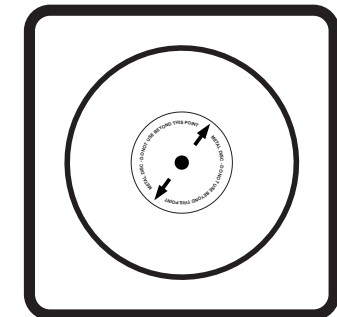

Fig. 2
8. Each pad is marked with arrows identifying when the pad should be discarded. Do not use the pad beyond this point because there is an internal metal disk that could damage the surface. (See Fig. 2)
9. After you have removed material, there may be some residue. Use a clean cloth with mild automotive top coat polish to remove the residue. (See Fig. 2)